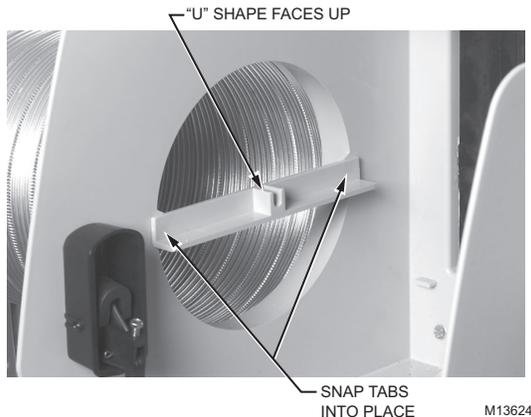

Fig. 20. Installing Bearing Bracket.
1. Position the Bearing Bracket inside the Humidifier Housing to the side where the Bypass Duct is connected. Make sure the “U” shape is pointing up. See Fig 20.